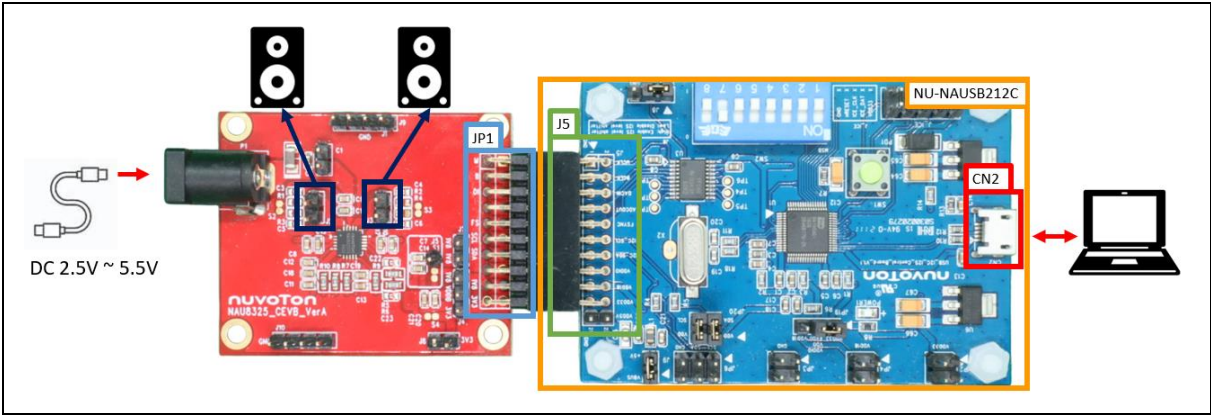

Figure 2-4 NU-NAUSB2I2C Connection
- 2. Connect J5 of NU-NAUSB2I2C to JP1 of NL-NAU8325. Figure 2-4 is the diagram after two boards are connected to each other.